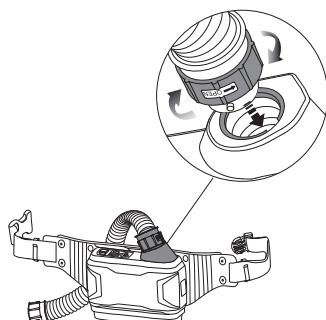

fig.7
- Attach one end of the breathing tube to the headtop and the other end to the blower unit's outlet. Twist the bottom end of the breathing tube to securely lock it into place (See fig.7).